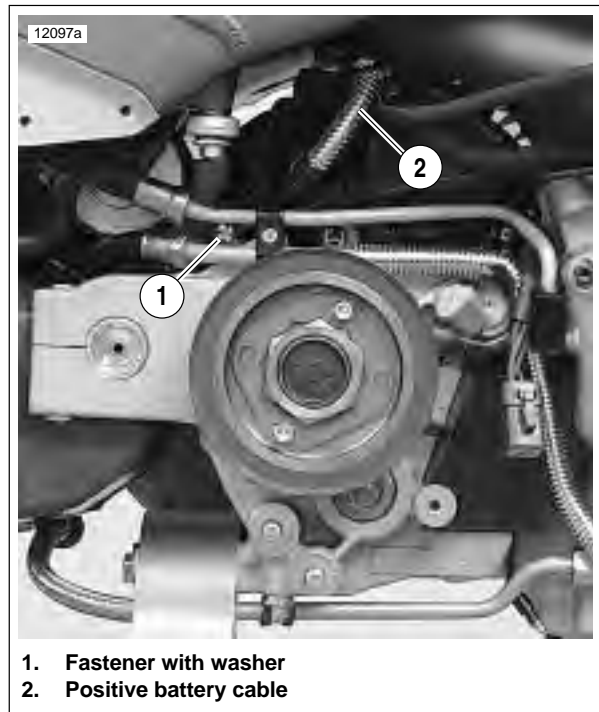

Figure 7-40. Positive Battery Cable
3. See Figure 7-40. Remove protective rubber boot from starter fastener. Remove fastener with washer to detach positive battery cable from starter.